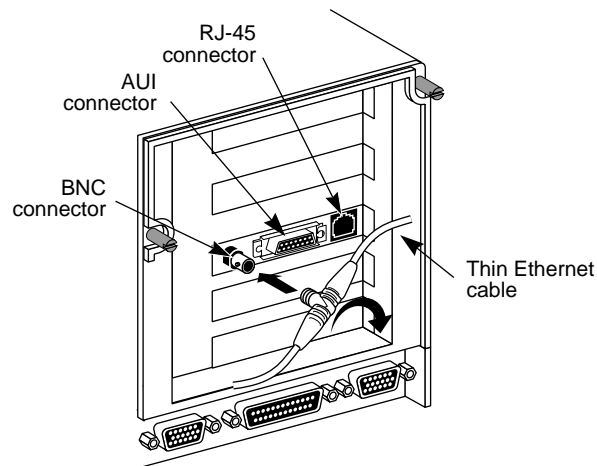

Figure 2-2 Connecting Thin Ethernet Cable
- 1 Connect the T connector to the adapter's BNC connector (see Figure 2-2).